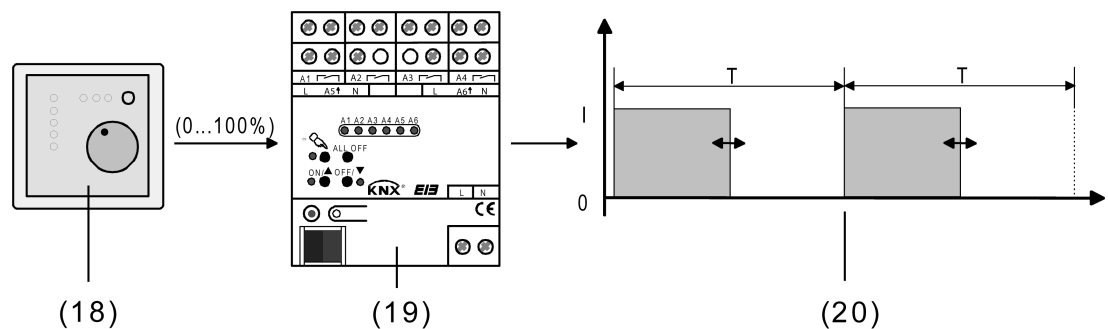

Figure 52: Command value principle with constant command value
- (15) Room thermostat (command value "1 bit")
- (16) Room actuator
- (17) Switching output signal for valve drives
In normal operation, the value telegram received via the 1-byte object "Command value" is converted by the actuator into an equivalent pulse-width modulated switching signal on the valve outputs (Figure 52). The mean value of the output signal resulting from this modulation is a measure for the averaged valve position of the control valve, taking into account the cycle time (T) which can be set in the actuator, and thus a reference for the set room temperature (see "Pulse-width modulation with constant command values and constant nominal valve positions").